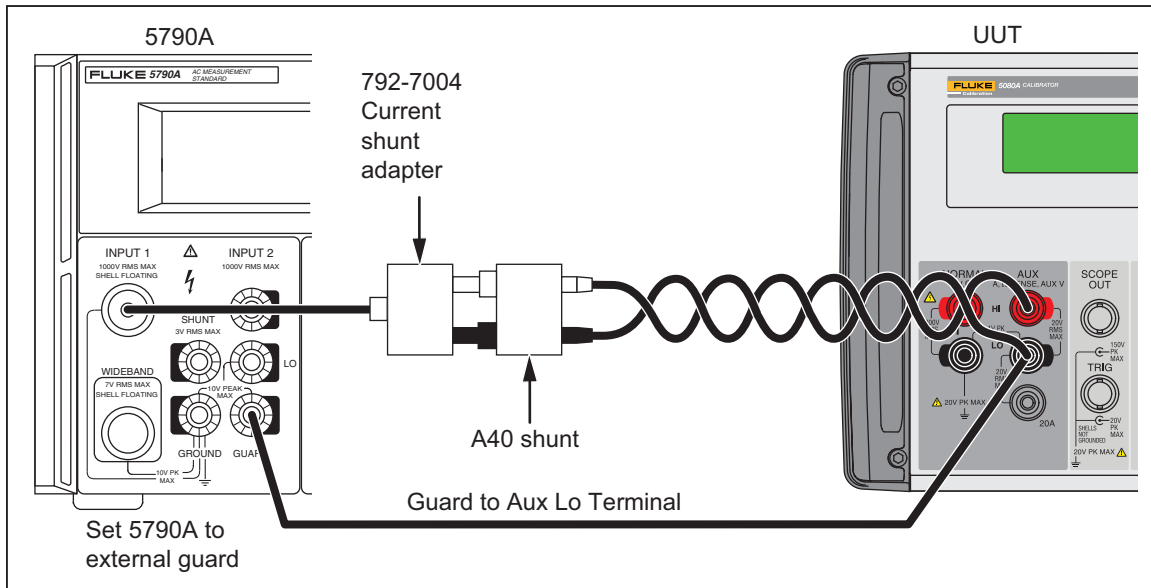

Figure 10. Connections for Calibrating AC Current with a Fluke A40 Shunt
1. Connect the test equipment as shown in Figure 10.